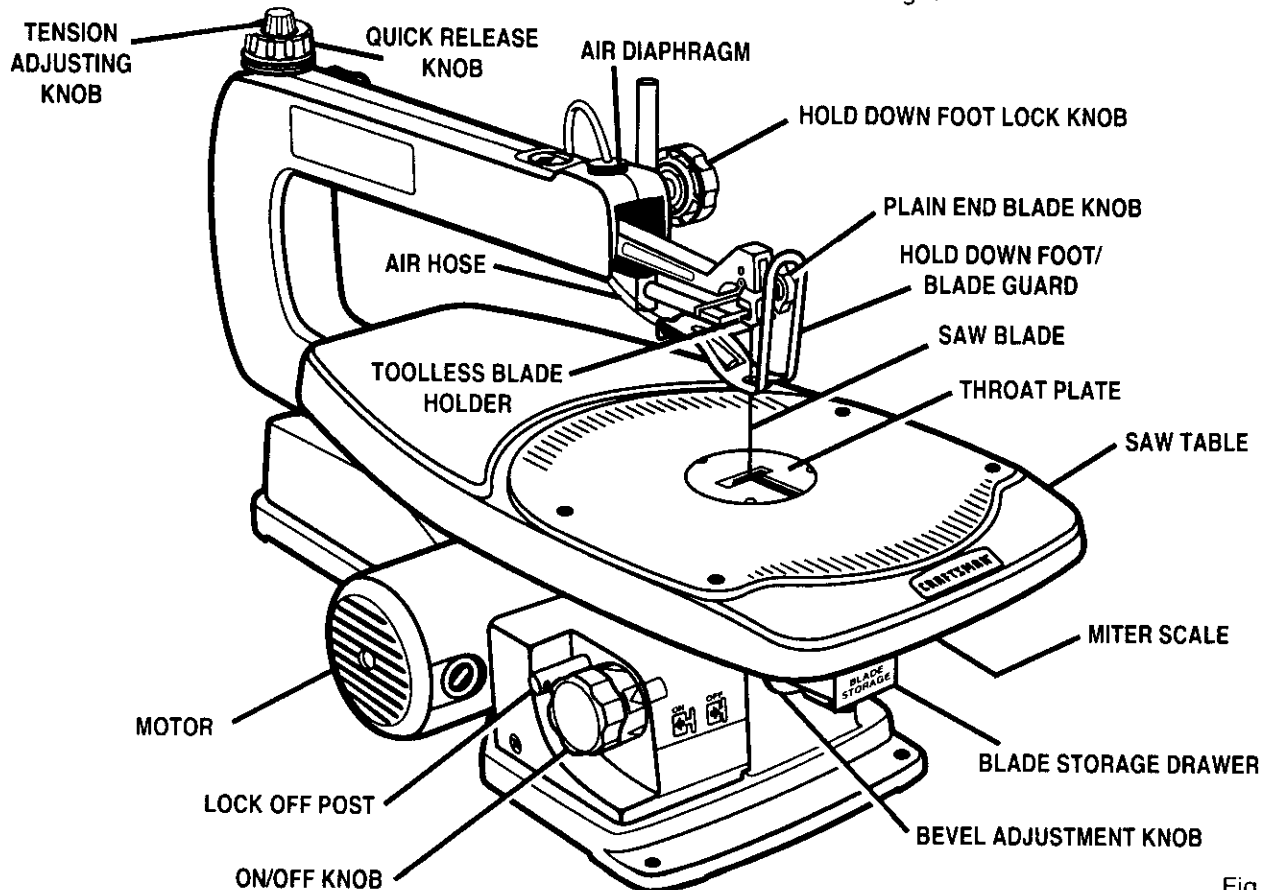

Fig. 5
Before attempting to use your saw, familiarize yourself with all operating features and safety requirements of your Sears Craftsman scroll saw. See Figure 5.
- On the top back of the saw, rotate the quick release knob to the left or counterclockwise to loosen blade tension. See Figure 5.